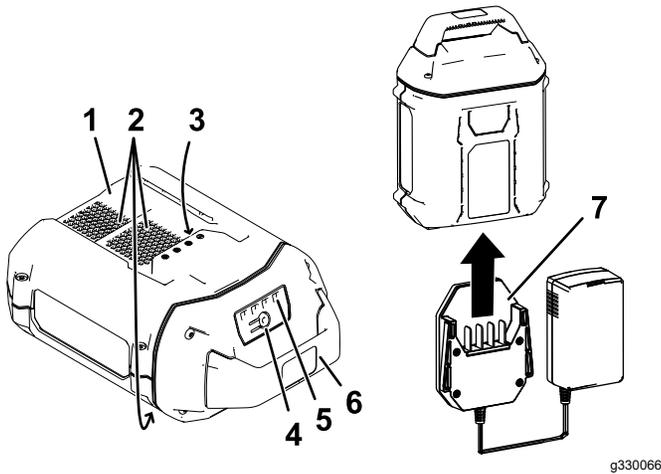

Figure 25
2. Line up the charger with the cavity on the back of the battery pack (Figure 25).
3. Slide the charger into the battery pack until it is fully seated (Figure 25).